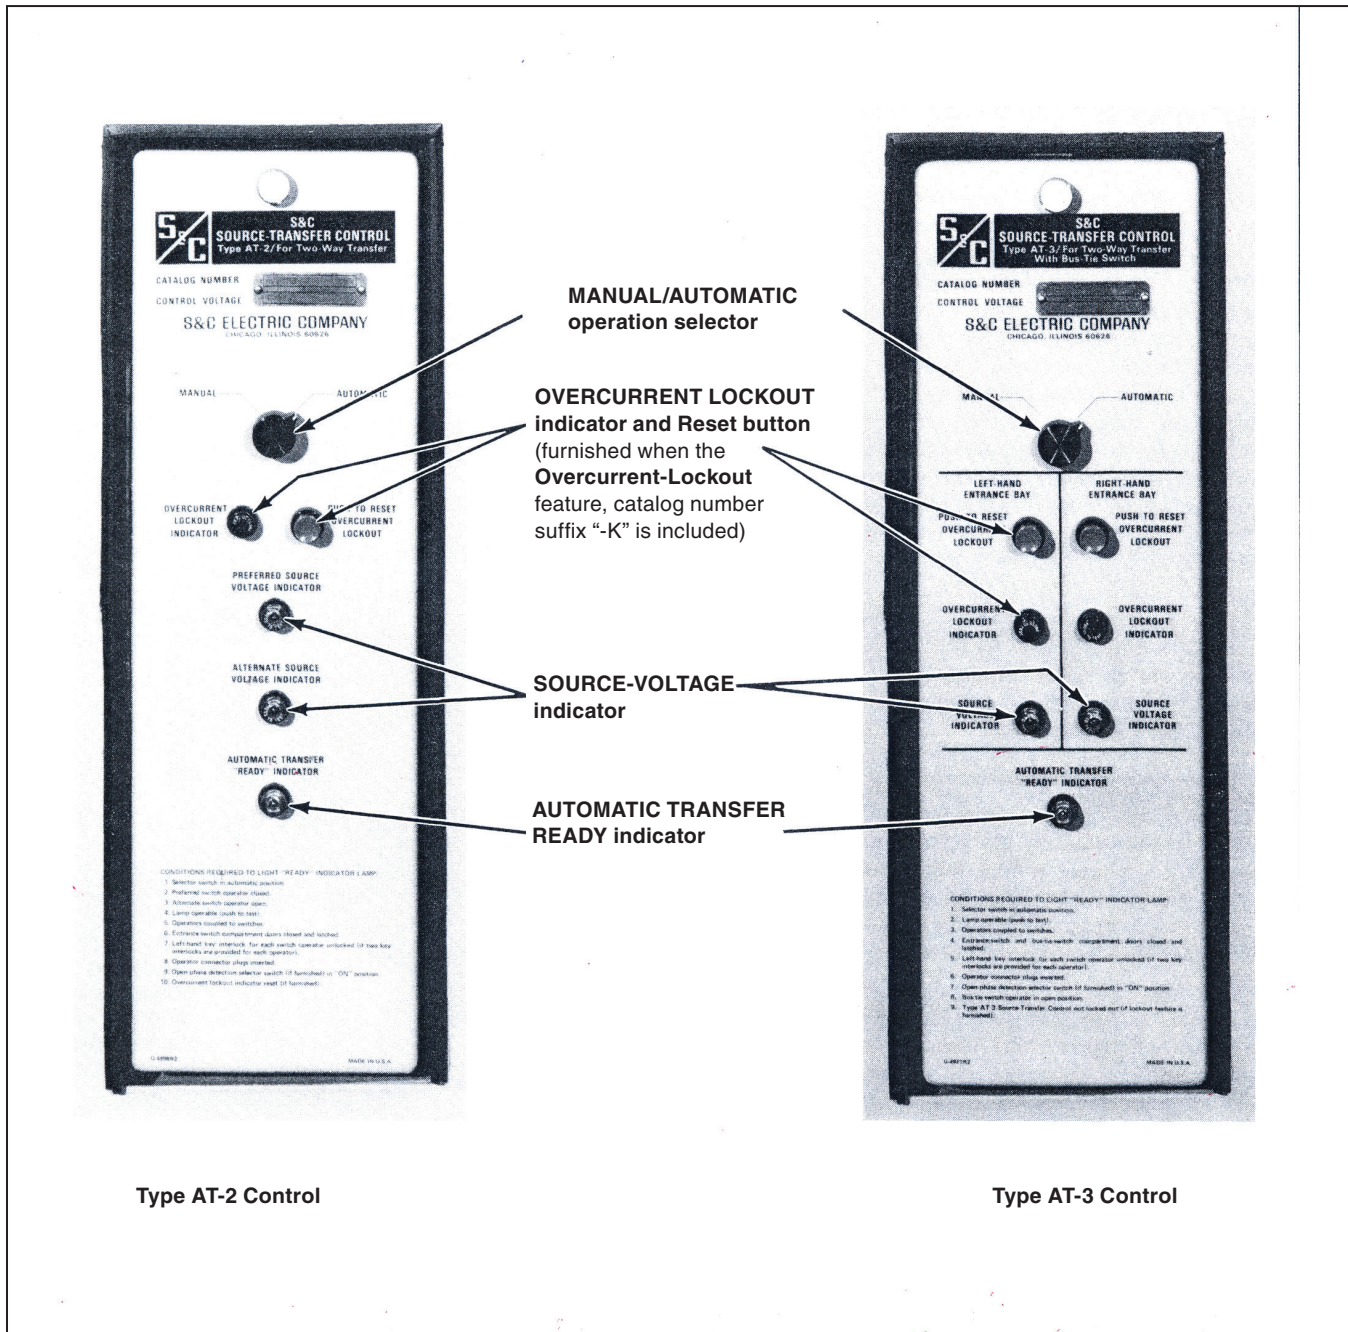

Figure 1. The front-panel features of Type AT-2 and Type AT-3 Source-Transfer Controls.
STEP 1. Place the MANUAL/AUTOMATIC OPERATION selector switch on the Type AT control faceplate in the **Manual** position. See Figure 1.